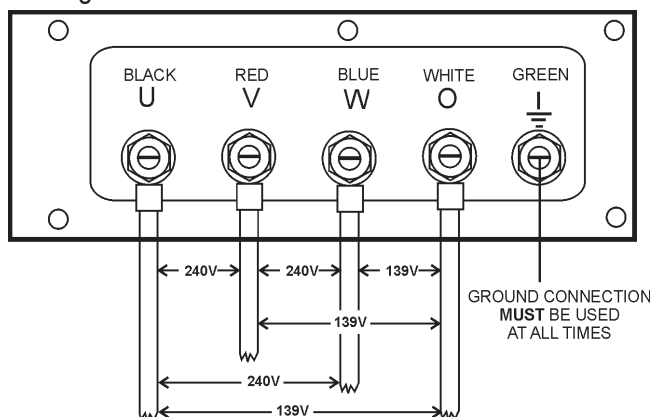

Figure 21. UVWO Terminal Lugs 240/139V Three Phase Connections
2. Connect the load wires to the UVWO terminals as shown in Figure 21.